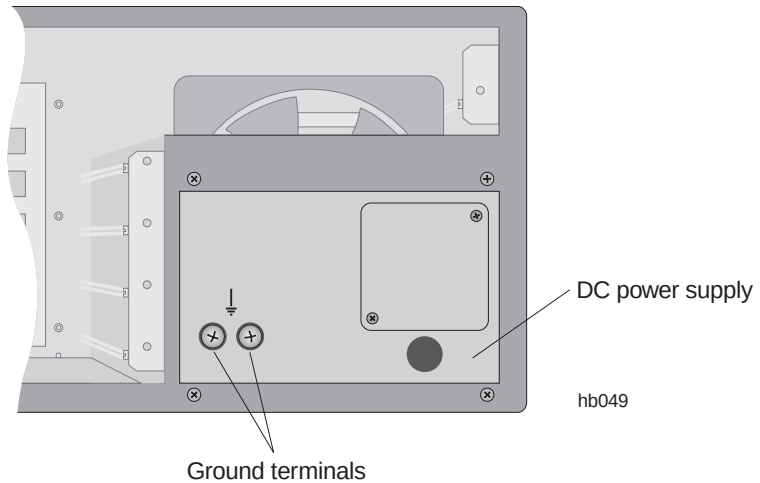

Figure 3-10 Ground terminals on dc power supply
1. Use a 2-hole lug to connect a No. 14 AWG ground wire to the ground terminals on the front of the power supply (figure 3-10).